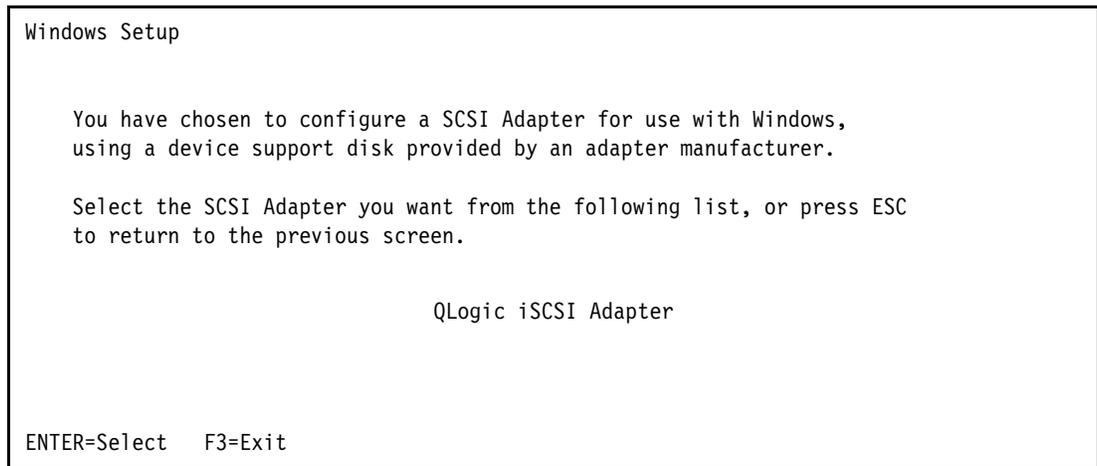

Figure 2-23 Windows Setup window
5. Insert the iSCSI device driver and press Enter. You will see a window similar to Figure 2-23 identifying the QLogic iSCSI Adapter option.